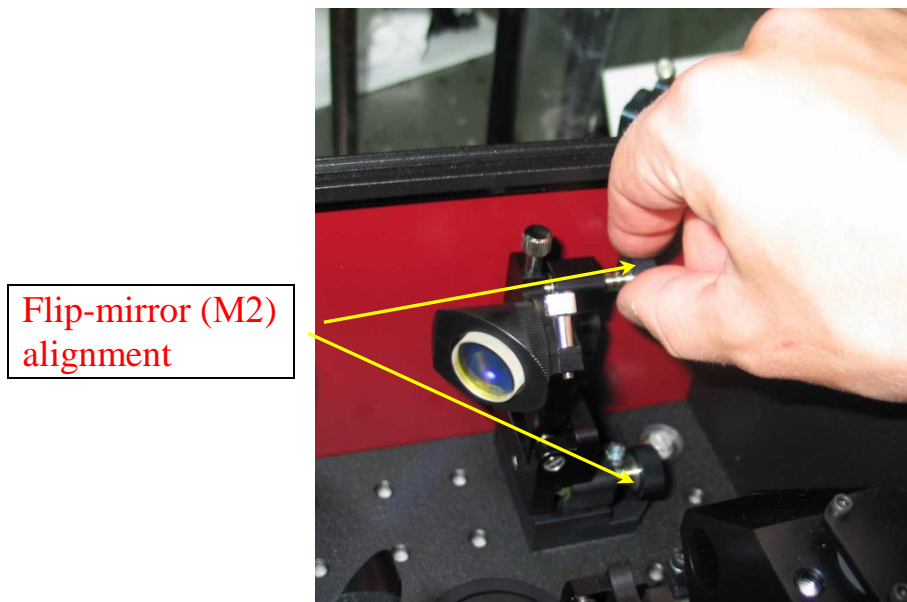

Fig.6.
- 9) Flip the mirror M2 so that it will be in “down-state” (parallel to the table) (Fig.6). Remove the gag from the 2W (full) output.
- 20) *Check that F and SH beams are collinear. Insert straight behind S2 the black steel plate. Two beams spots must be coincident on it. If not try to adjust the M2 screws for aligning (Fig.6)*